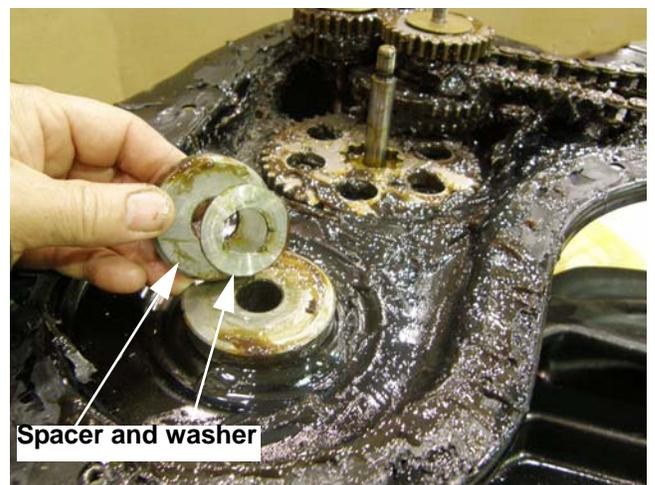

Figure 5.24
5. Once the wheel axle and sprocket are lifted out of the case, remove the spacer and washer that fit below the axle. See Figure 5.24.